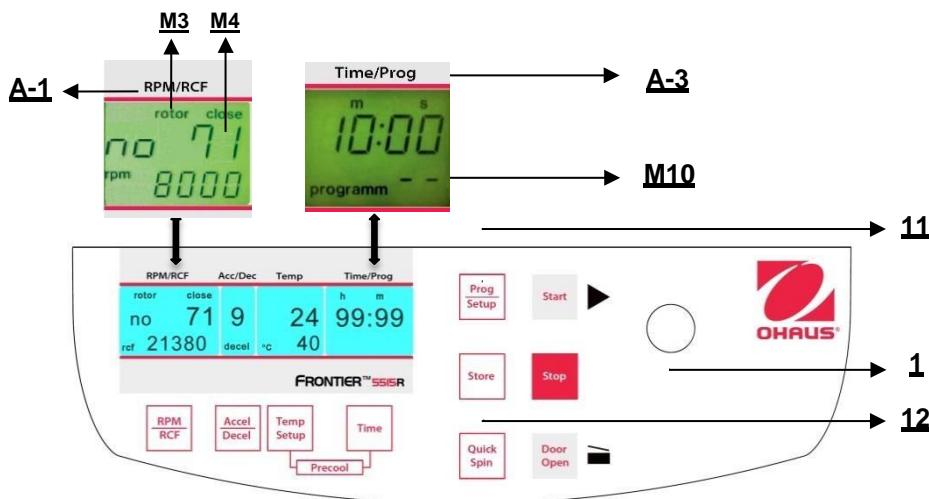

Figure. 25
To recall stored programs press the key Prog/Setup (11) (refer to figure 25) while the lid is already closed. Inside the display Time/Prog (A-3), programm - (M10) appears. The desired program number can be pre-selected with the adjusting knob (1).
To leave the program mode just press the key "Prog/Setup" (11) (refer to figure 25). Then inside the display "Time/Prog" the word "programm--" appears.